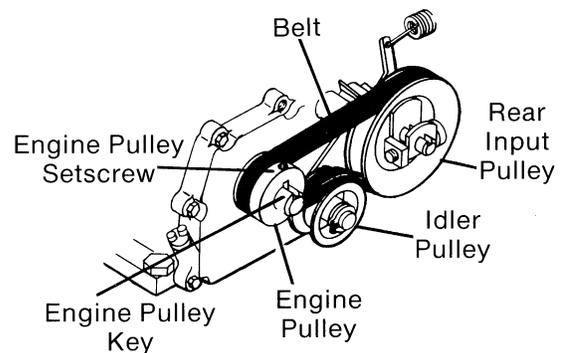

FIG. 12
- D. Remove belt by slipping belt over front of engine pulley and turn pulley until belt comes off. Remove from rear input pulley. (Fig. 12)
- E. Remove engine pulley and engine pulley keys from engine crankshaft by loosening two setscrews on engine pulley (Fig. 12)
- B. Remove old belt by slipping belt over front of engine pulley, (Fig. 12), and turning pulley until belt comes off. Remove from rear input pulley.
- C. Replace with new belt. When replacing belt, fit belt around rear input pulley first and then around front of the engine pulley,(Fig. 12).